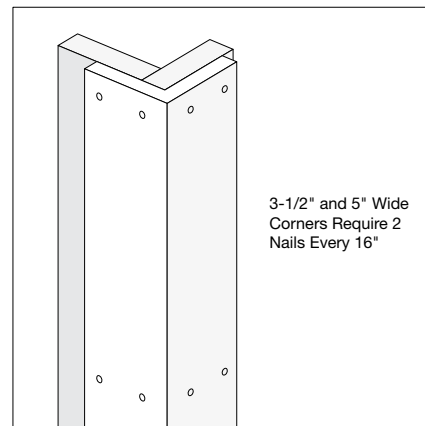

**Fig. 9**
- KLEERLok SFS products feature a nailing flange for easier concealed fastening. Fasten KLEERLok SFS through the nailing flange every 12" at each framing member using siding or 15 gauge finish nails (**Fig. 9**).